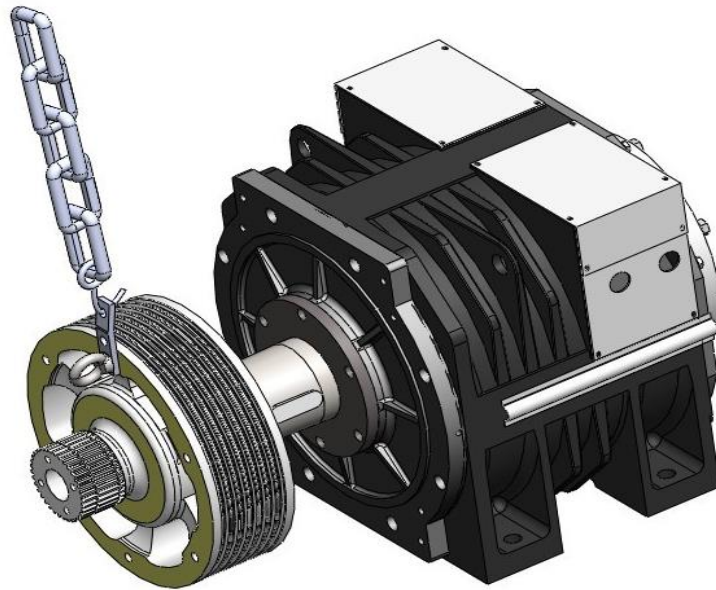

Figure 58: Hoisting the sheave
9. After the sheave is loosened, remove the hydraulic jack and other tools. Then hoist out the sheave. See Figure 58.